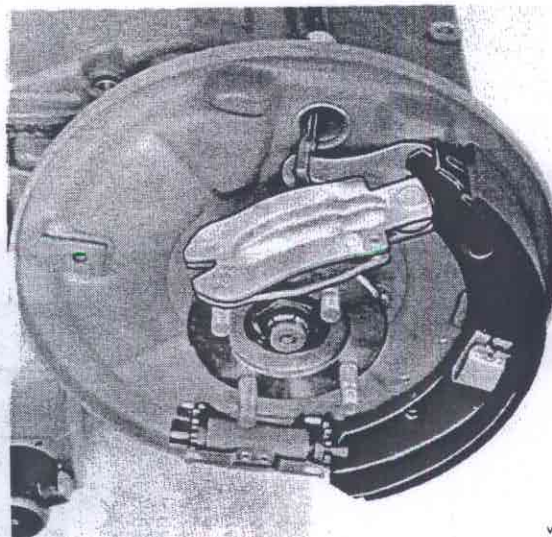

Fig. 55–4. Levers
3. Fit the levers in their position, see Fig. 55–4.